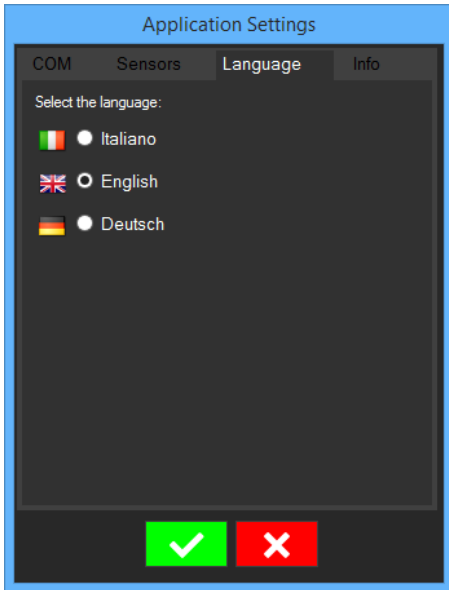

Figure 8
5. Click on the tab **Language** (Figure 8) to select the software language.